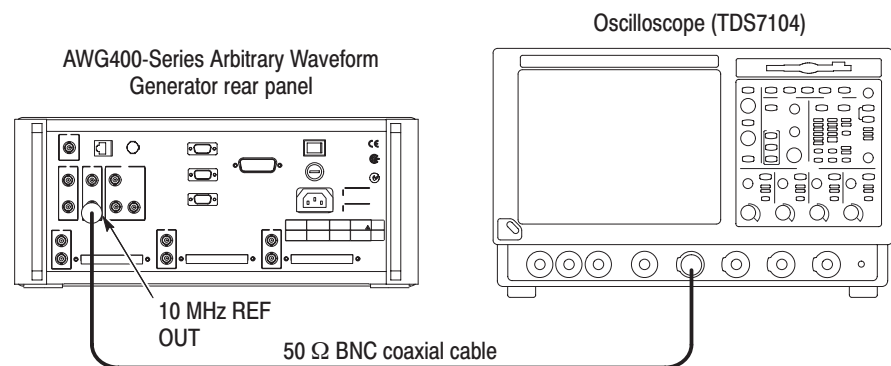

Figure 4–44: 10MHz Reference output initial test hookup
- a. Use the 50 Ω BNC coaxial cable to connect the AWG400-Series Arbitrary Waveform Generator 10 MHz REF OUT output to the oscilloscope input connector (see Figure 4–44).
4. Verify the digital data output level accuracy (see Figure 4–47).